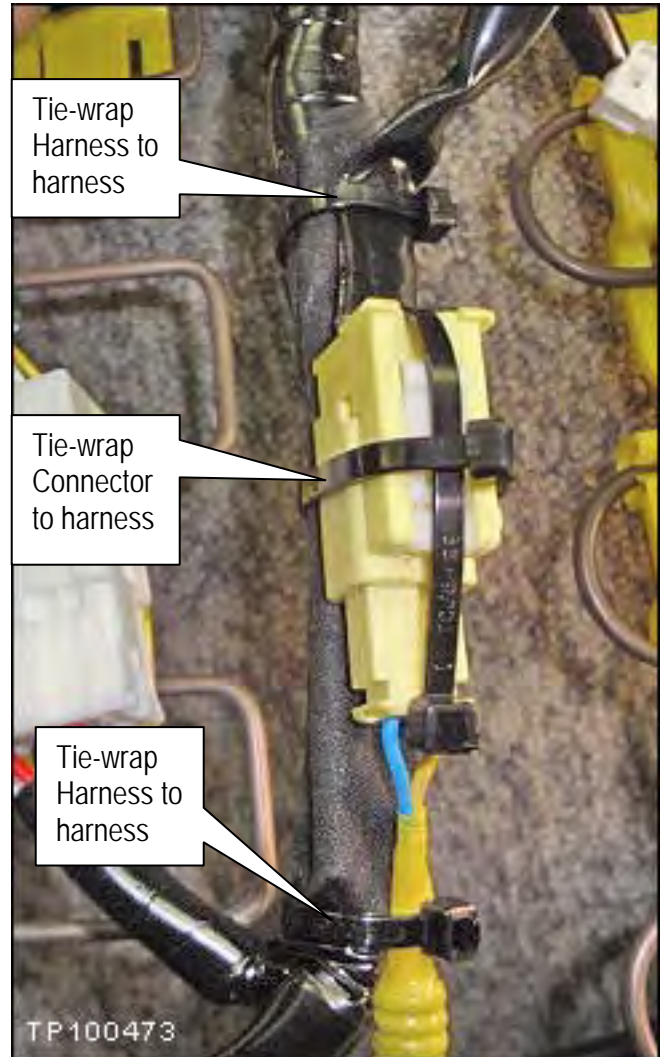

Figure 10c
- One tie-wrap (P/N 24216-S5800) - connector to harness - as shown in Figure 10c.
- Two tie-wraps (P/N 24216-S5800) - harness to harness - as shown in Figure 10c.